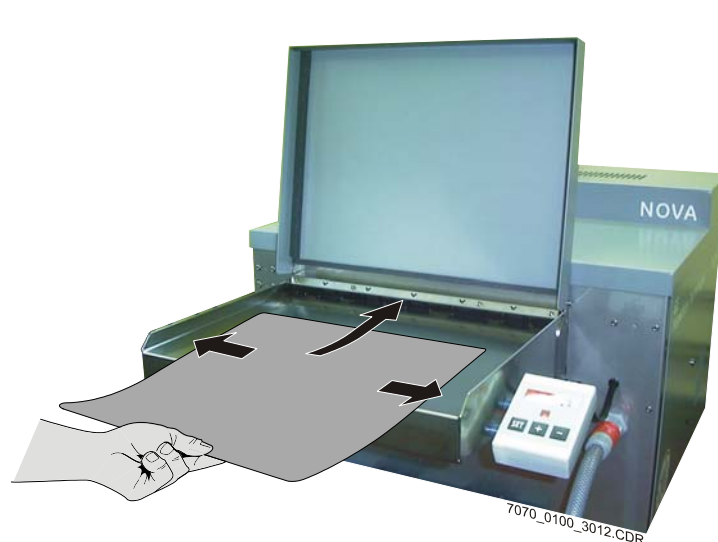

Fig. 8
- Film sheets are laid with the large side in front on the feed table while holding the end of the film with two fingers (in the middle). With a forward motion applying slight pressure, the film is guided straight into the insertion slot. Release the film when it is grabbed by the transport system of the processor (Fig. 8).